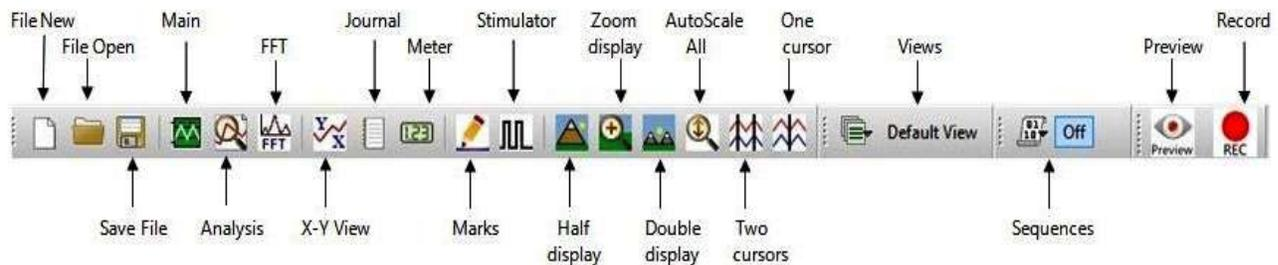

Figure AN-12-L1: The LabScribe toolbar.
- Clicking the Zoom Between Cursors button on the LabScribe toolbar (Figure AN-12-L1) to expand or contract the 15-second recording to the width of the Main window.